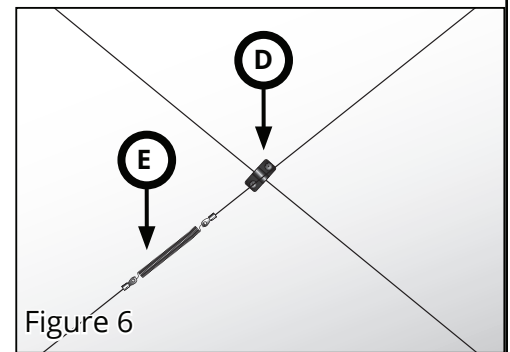

Figure 6
- 4** Crosswire should go under the wire cover plate (D) in the center of the board. (see Figure 6)
- 5** Attach spring to loops at each end of wire (E). Spring should be in the center of the board and should ride above the wire cover plate, not under it.